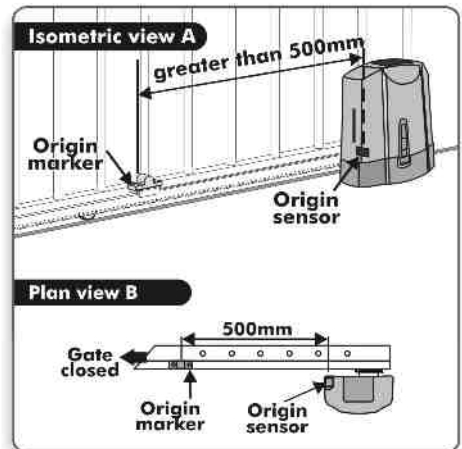

FIGURE 30
2. Mount the origin marker to the rack a minimum of 500mm from the origin sensor. Refer to Figure 30, isometric view A or plan view B.